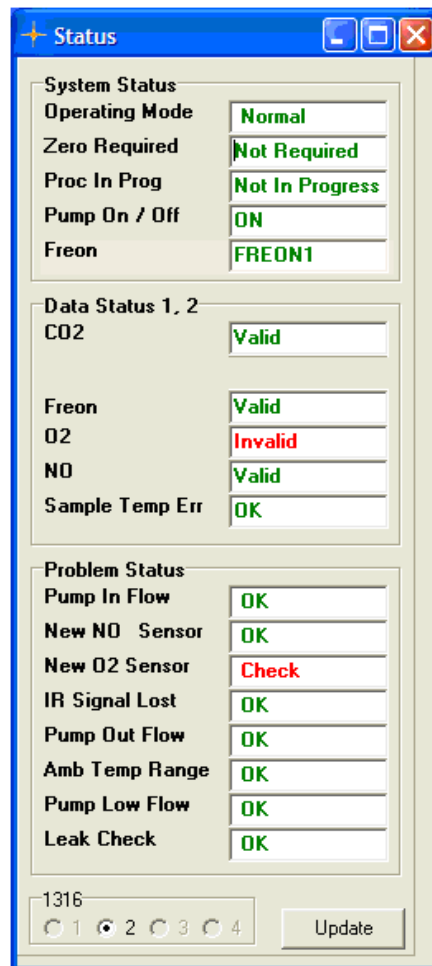

Figure 4.14. The Status window displaying that a new O2 sensor is required.
- 2) If the New O2 Sensor is required see the Status window figure 4.14., install a new O2 sensor. Order number VM0200A.